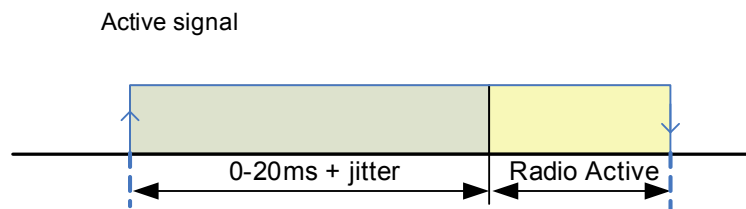

Figure 14. Active signal
- As a trigger for the application controller to collect new sensor data (this must be completed before the radio becomes active see Figure 14.).
Its polarity can be configured active high or active low. When the active signal is asserted, nRF8001 will drain peak currents as described in chapter 13 on page 39. The active signal can be configured to assert up to 20 ms before the nRF8001 radio is switched on, see Figure 14. Jitter on this signal is  $\pm 312.5 \mu\text{s}$  and the signal may occur early by up to 0.1% of the interval length, as a result of a 32 KHz oscillator drift.